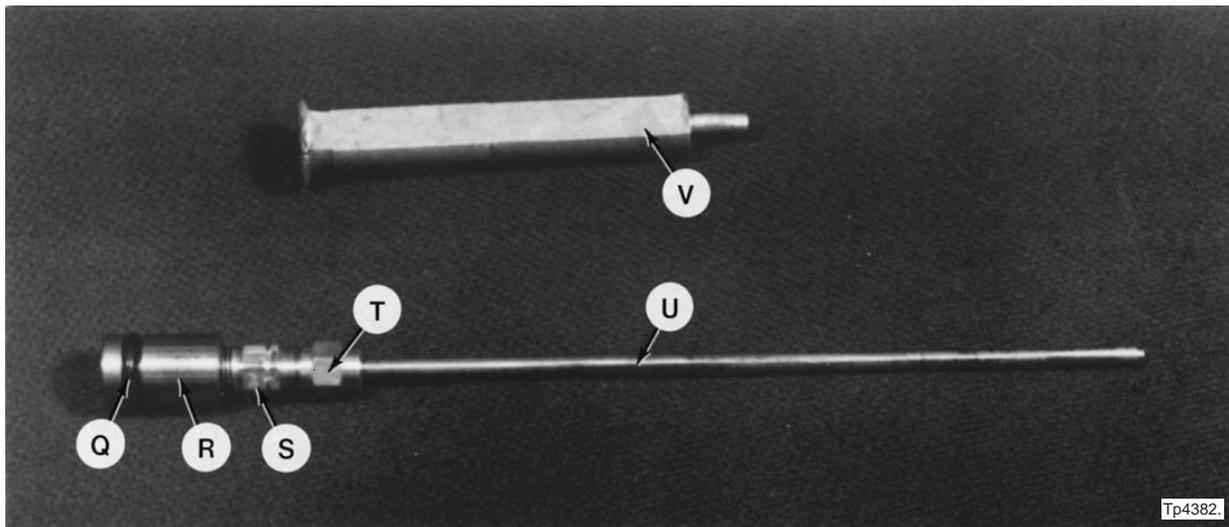

Figure 1.56 - Oil Feed Tube Assembly
18. Remove oil tube "U", Figure 1.56, from the feed tube assembly by unthreading nut "T".